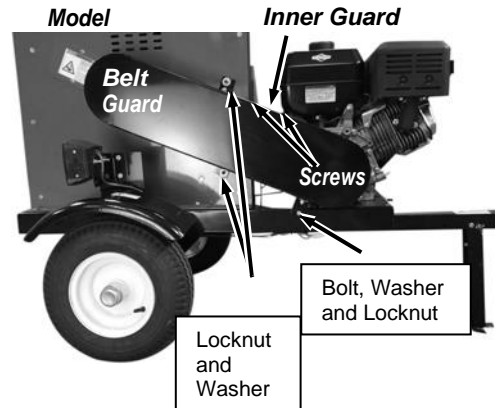

Figure 41
1. Remove the two Self Tapping Screws using a 5/16" Wrench and remove the Inner Guard (**Figure 41**).
2. Remove the Bolt, Washer and Locknut that attaches the lower portion of the Guard to the Base using two 1/2" Wrenches (**Figure 41**).